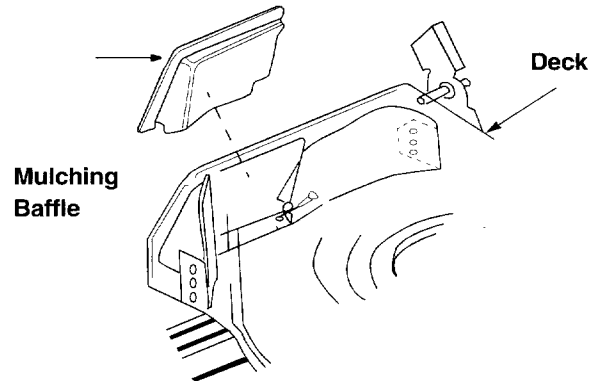

Figure 6
- To remove the mulching baffle, lift the rear discharge door on the mower. Remove the mulching baffle. See Figure 6.
- Lift the rear discharge door and install the mulching baffle. See Figure 6.